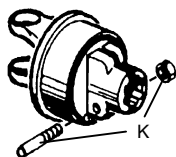

Fig. 21/1
(refer to Fig. 21/1 and 21/2) Remove the clutch guard (A) from the front of the gearbox. Slide the clutch onto the gearbox input shaft and retain in position by fitting and tightening the two clamp bolts (K). Refit and secure the clutch guard to the front of the gearbox.
(Fig. 21/2) Ôter le protecteur (A) de la boîte de vitesses.
Limiteur à friction 647186, 204066248, 204056754 (Voir fig. 21/2)